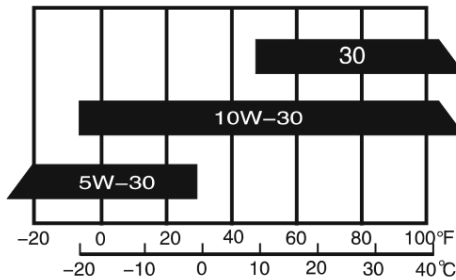

Fig.3
- Clip the plastic hooks at the end of the textile part of the grass catcher to the metal frame (Fig.3).